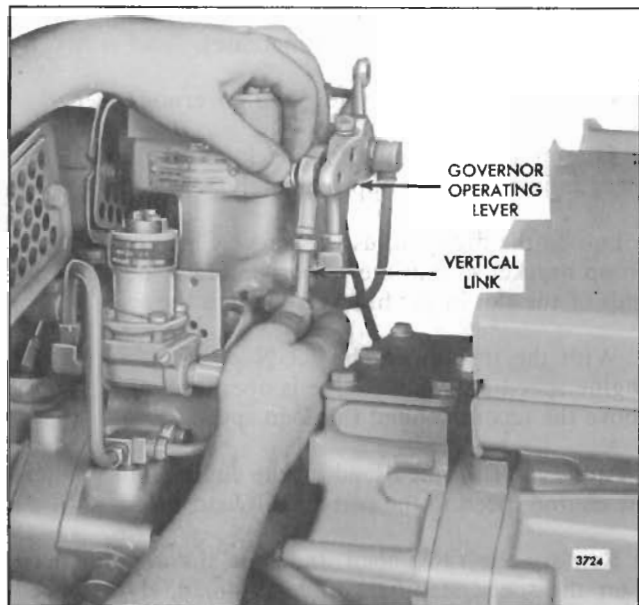

Fig. 7 - Adjusting Vertical Link
15. Adjust the length of the vertical link so that the bolt holes of the levers and the centers of the rod end bearings are lined up (Fig. 7).